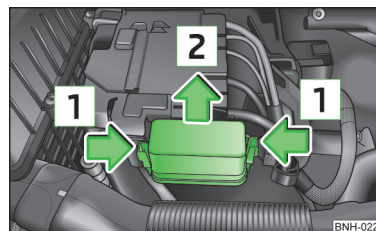

Fig. 104
- Press together the interlocks 1 of the cover simultaneously» fig. 104 and press the cover upwards in the direction of the arrow 2.